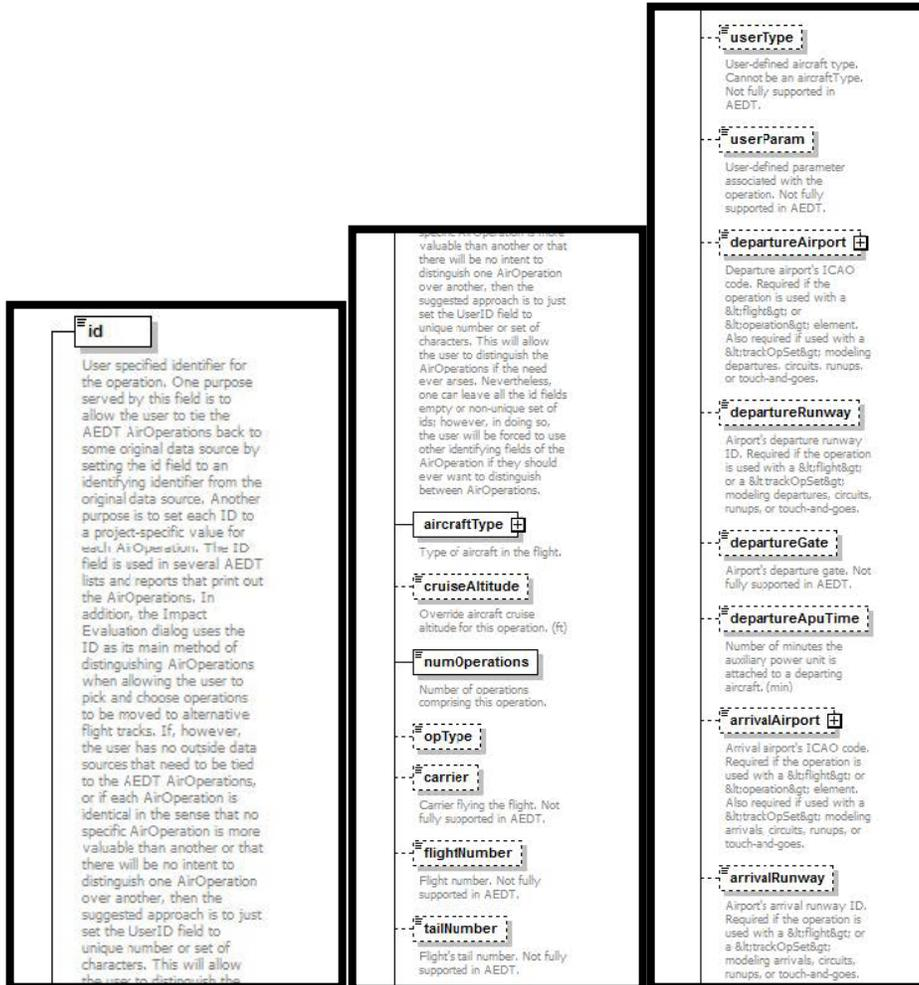
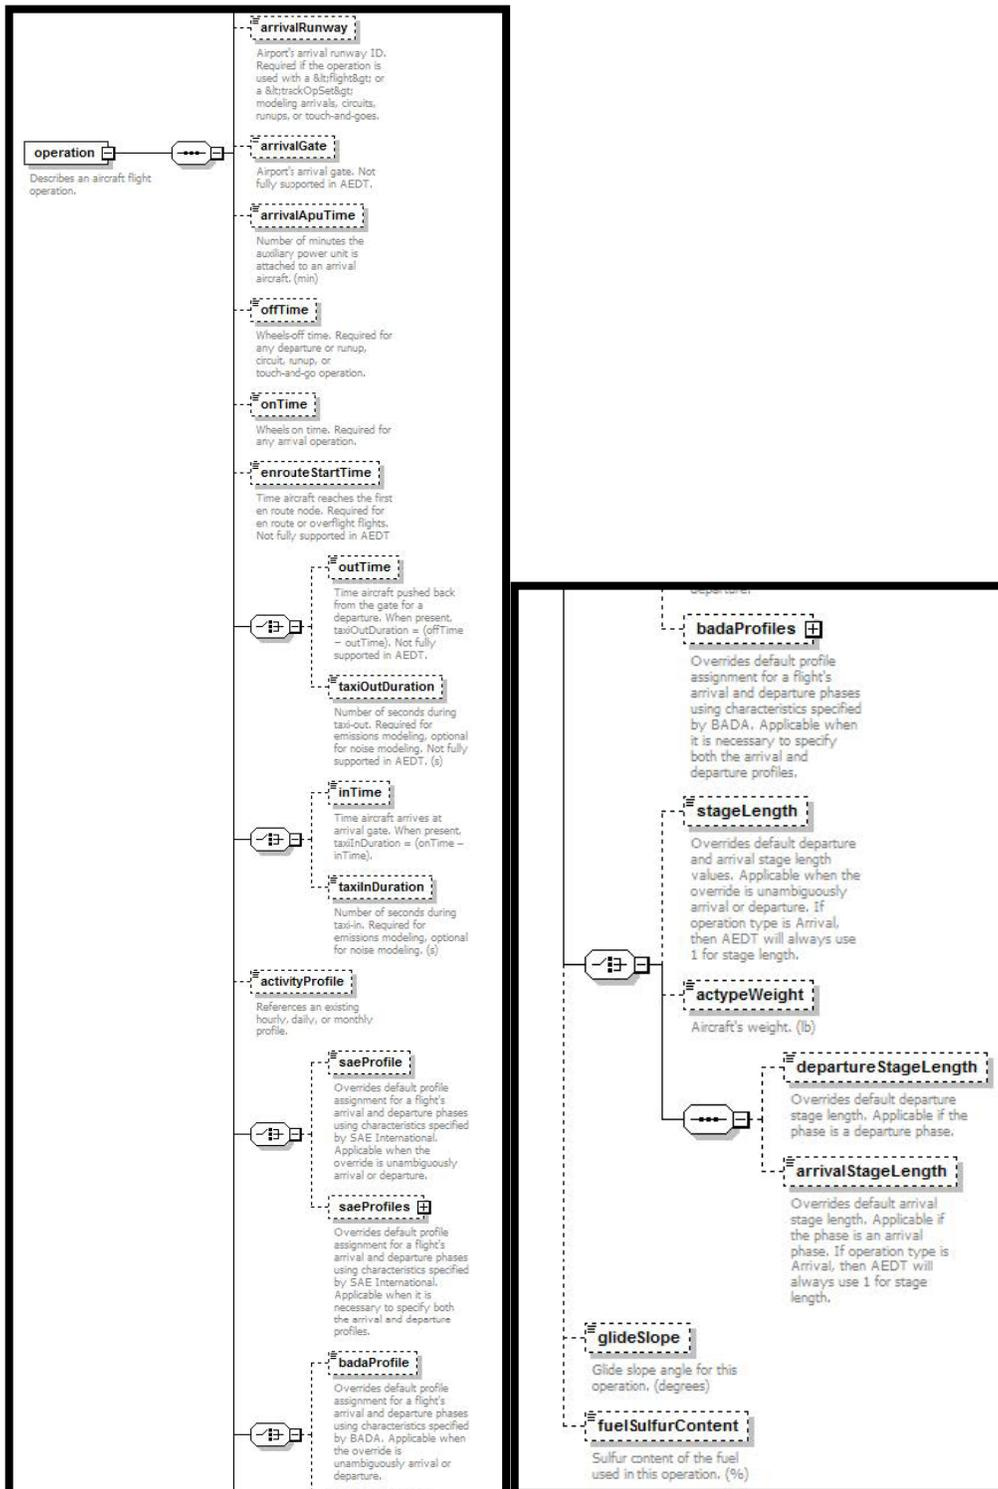

Figure 57. element operation. 1 -> 2 -> 3
Figure 58. element operation. 4 -> 5
13. AsifXml/study/scenario/case /operation (Figure 57 and Figure 58):